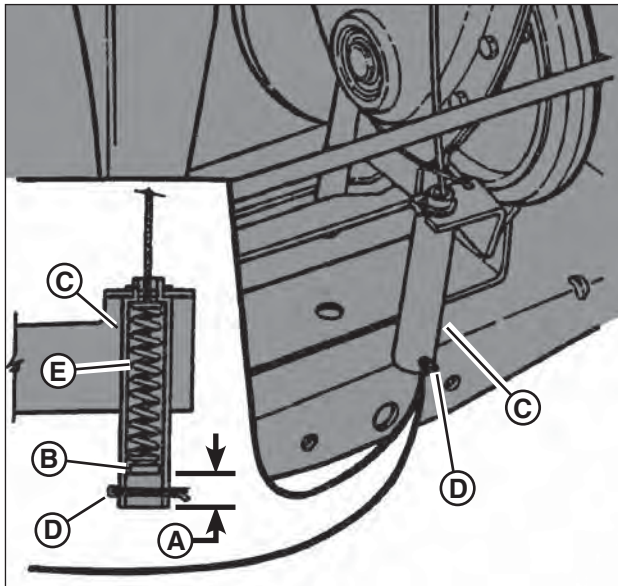

Figure 39: Adjusting the brake cable
2. Measure the distance (A, Figure 39) between the end of the clutch/brake cable (B) and the bottom of the housing (C). The measurement should be no less than 1/2" and no greater than 3/4".
NOTE: The cotter pin and brake spring (D and E, Figure 39) are noted for reference purposes only.
4. Adjust the cable up or down using the jam-nuts to obtain a distance of 1/2" to 3/4" between the end of the clutch/brake cable (adjustment shown in inset of Figure 39) and the bottom of the housing.